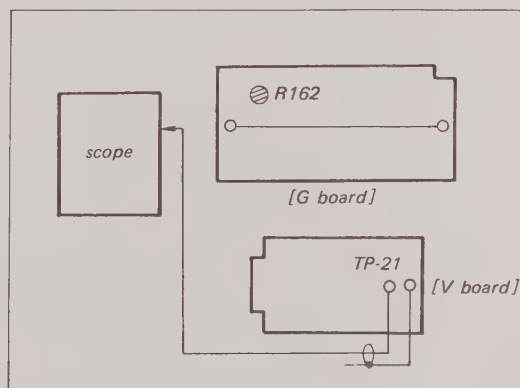

Fig. 8-33. Chrominance record level adjustment test setup
2. Connect the scope to TP-21 on the V board. See Fig. 8-33.